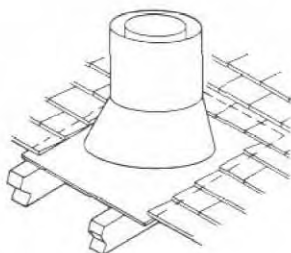

Figure 31
Step 7. Secure flashing by nailing along the perimeter into roof using 8d nails. If shingled roof, slide upper end and sides of roof flashing under shingles (trim if necessary), seal the top and both sides of the flashing to the roof with roof caulking. Cover nail heads with roof caulking (Figure 31).